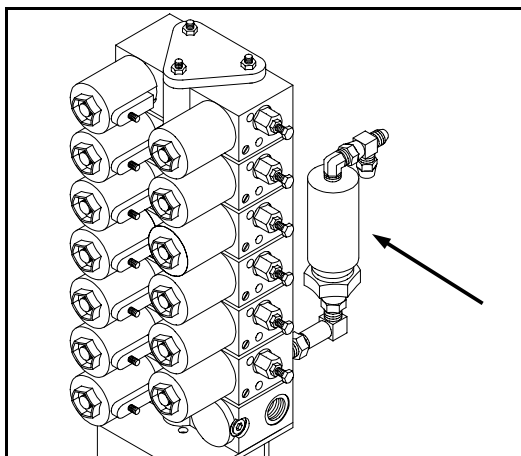

FIG 4.3
**LIFTARM STACK VALVES** - The valves on the lift control stack valve are protected by a 90 Micron in-line sintered bronze filter (fig. 4.3).